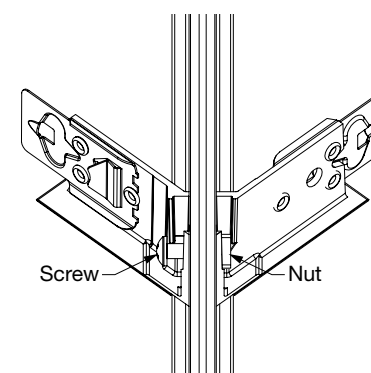

Fig 19
- Insert a nut into the slot of the second Angle Bracket and place the bracket back-to-back with the first bracket, with the tabs registering inside of the rout hole (**Fig 19**)